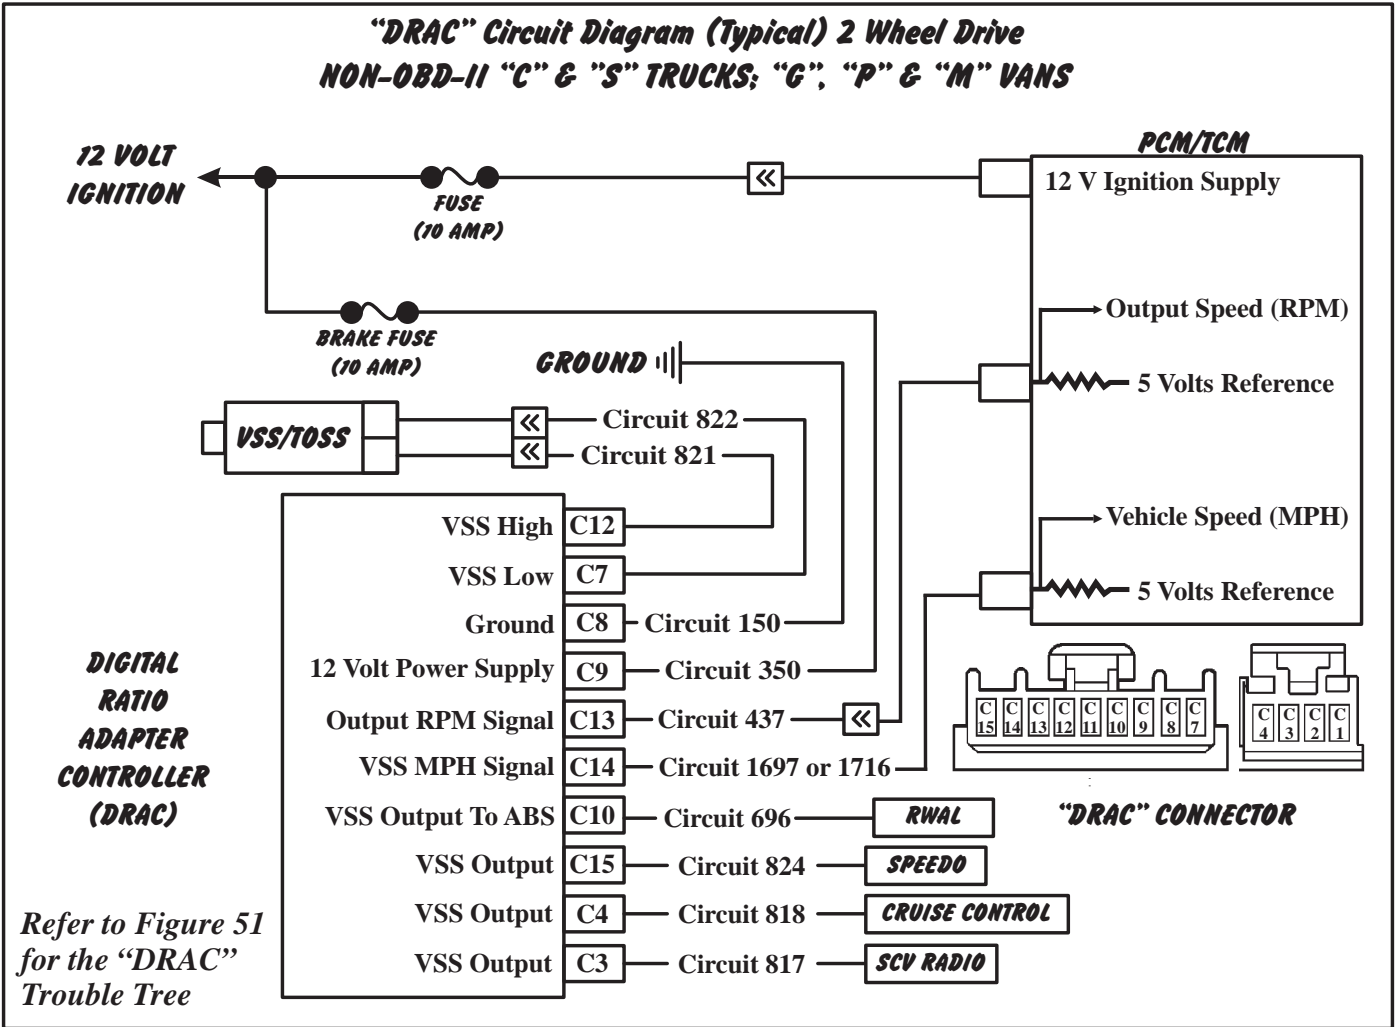
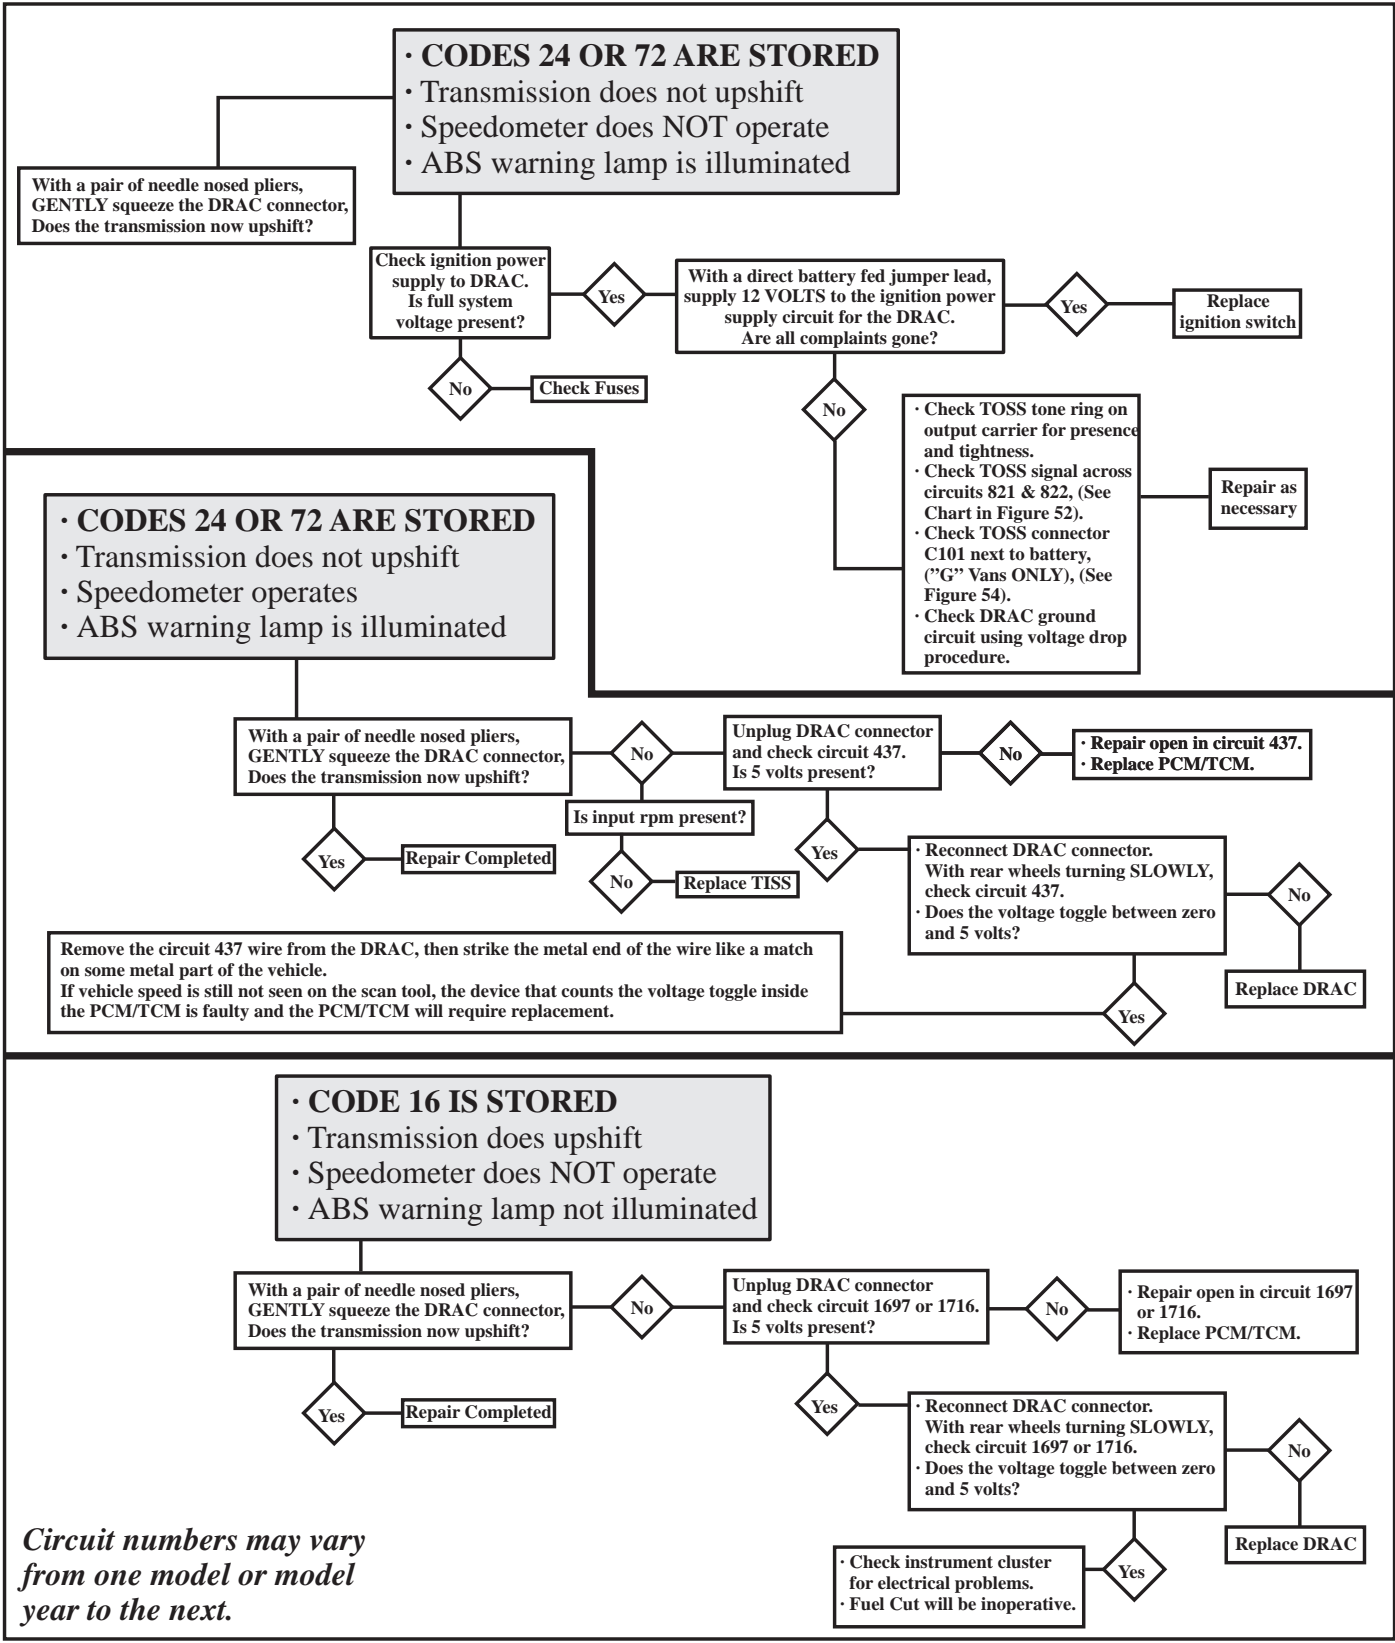

Figure 50
Figure 51
- ISUZU NPR, Chevy Forward and GMC Tiltmaster Tilt cab trucks, when equipped with the GM 5.7L gas engine and 4L80E transmission will have the same VSS system with a DRAC as a GM built "P" van and is diagnosed the same as the system in Figure 50 also using the diagnostic tree in Figure 51.
If all the above complaints exist, check these items **FIRST!** (Refer to Figure 50) Remember, a faulty ignition switch can cause a loss of power to the DRAC. Connect a direct battery fed jumper lead to the power supply wire of the DRAC and see if this cures the above complaints.
- A short or open in circuit 1697 or 1716, (Refer to Figure 50).
- A fault in the output speed sensor, its wiring (Circuits 821 or 822, Refer to Figure 50) or connector, (See Chart in Figure 52).